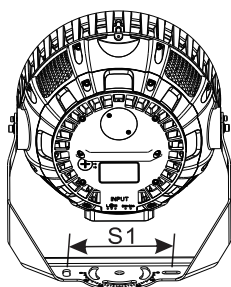

Figure 5
1. Mark the hole distance S1 shown in the product to be installed (Figure 5)